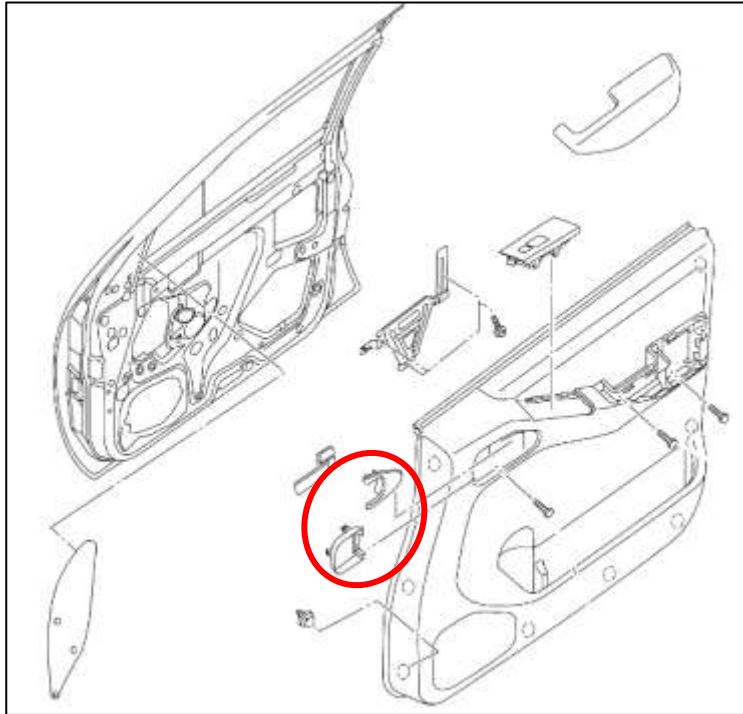

Figure 74
2. Remove the Trim Piece behind the Door Handle with a Trim Removal Tool. *Figure 74.*